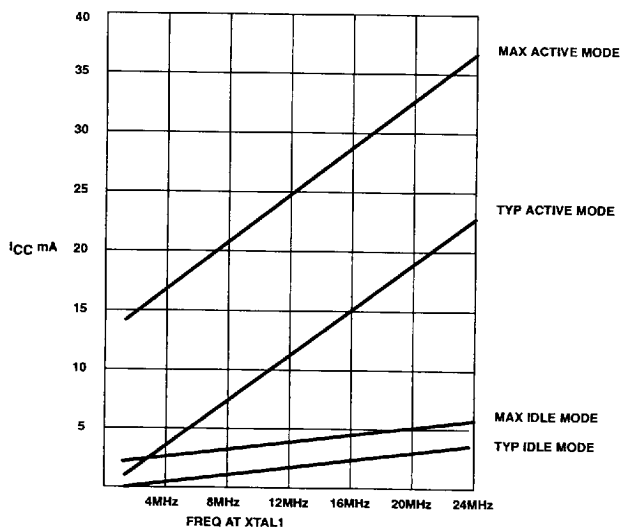

Figure 8. I_{CC} vs. FREQ
- I_{CCMax} at other frequencies is given by: Active mode: $I_{CCMax} = 0.94 \times \text{FREQ} + 23.72$; Idle mode: $I_{CCMax} = 0.14 \times \text{FREQ} + 4.32$, where FREQ is the external oscillator frequency in MHz. I_{CCMAX} is given in mA. See Figure 8.